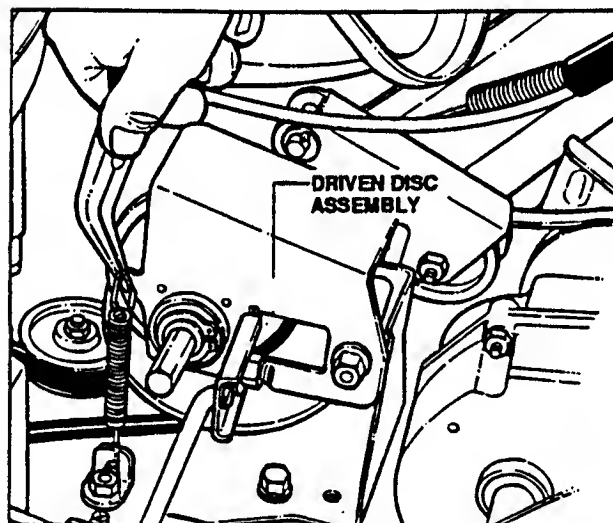

FIGURE 3.16
2. Using needle nose pliers, unhook the drive spring and slide the driven disc assembly off the hex shaft. See Figure 3.16.